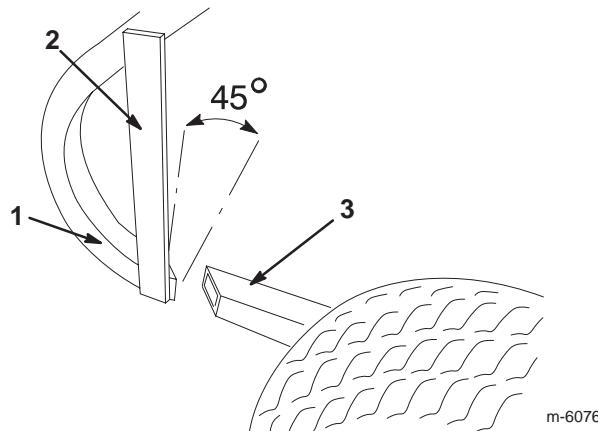

Figure 1
1. Cut the right side of the bagger frame just in front of the vertical brace. The cut must angle back at a 45 degree angle (Fig. 1).
2. Remove and discard the bolt, nut, and frame piece in front of the cut (Fig. 1).